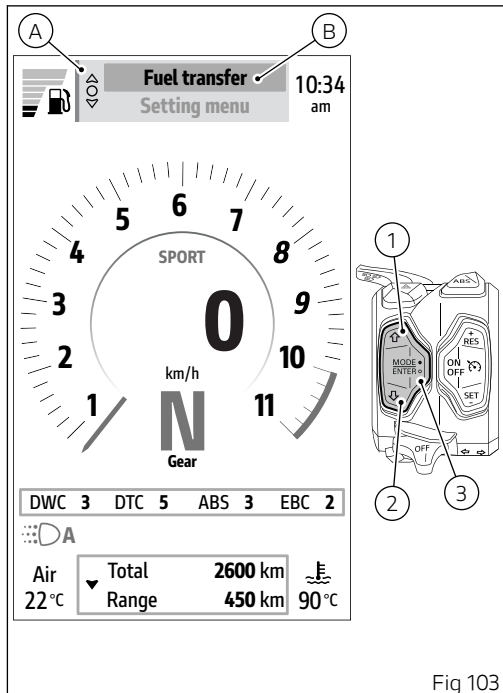

Fig 103
Use buttons (1) and (2) from the Interactive Menu to select item "Fuel transfer" (B, Fig 103) and press the ENTER button (3).